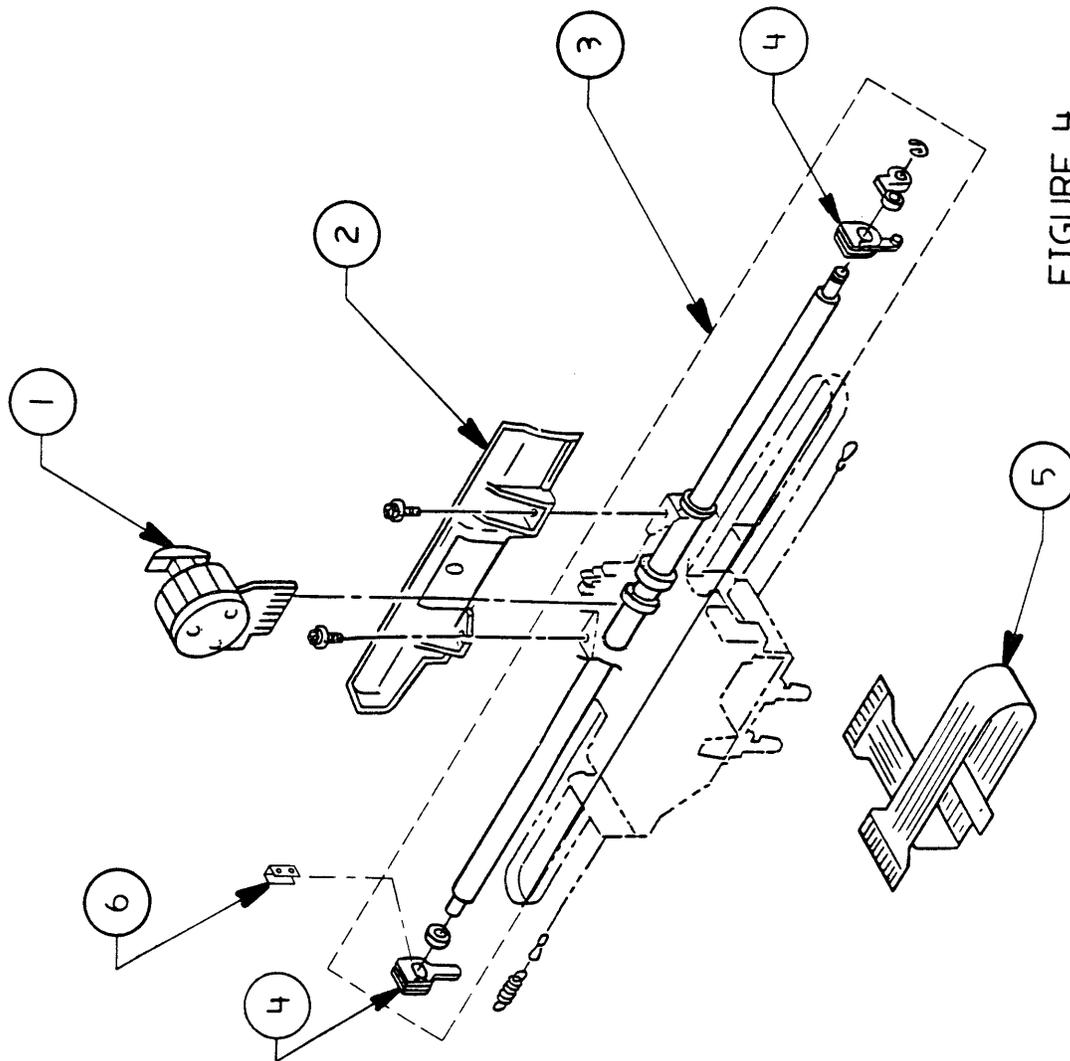

FIGURE 4
□ **CARRIER BLOCK (Figure 4)**